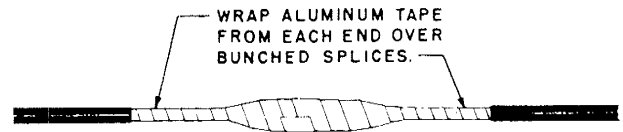

**Fig. 10 – Insulating Conductors**
**4.04** Spread the joined conductors, as shown, to provide adequate clearance for applying the insulation. Over each pressed sleeve fold a 2-1/2 inch length of 3/4-inch DR Tape, as shown in Fig. 10.